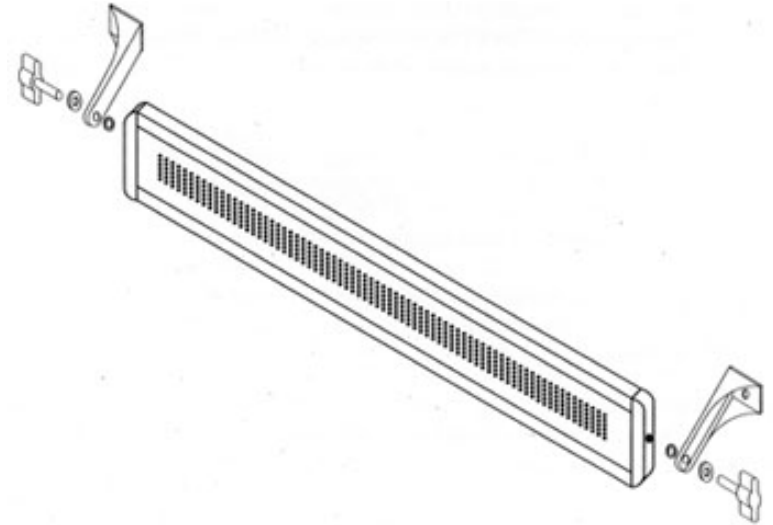

Figure 1. LED Sign's Wall Mount Bracket Assembly.
1. Refer to Figure 1 below and assemble as shown. You might need to unscrew the wall mount bracket nut from the side of the sign first.